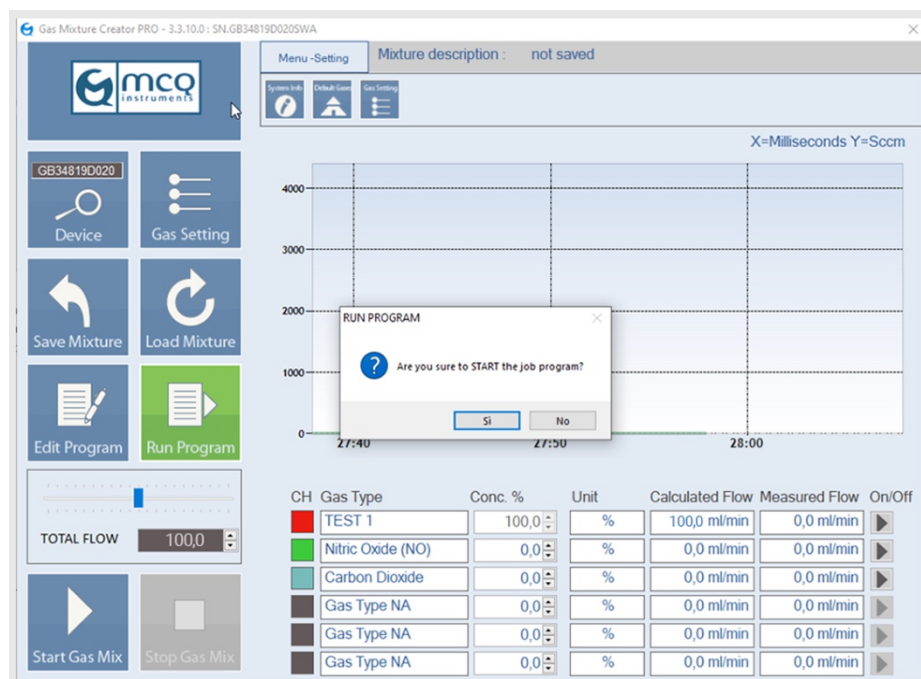

Figure 6-38
8. To RUN your created program, once you have load it, click on the button “**Run Program**” in the main screen of the software. A confirmation windows will be open and then click “**yes**”. (Figure 6-38)